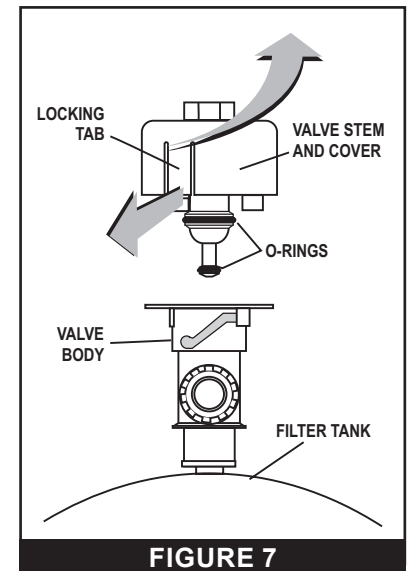

FIGURE 7
- c. Stand clear of the filter and wait until all pressure is relieved. **Pressure gauge must read zero (0) psi.**
2. With the air relief valve installed, pull out the locking tabs and unlock the valve stem and cover assembly from the valve body counter-clockwise (see **FIGURE 7**).